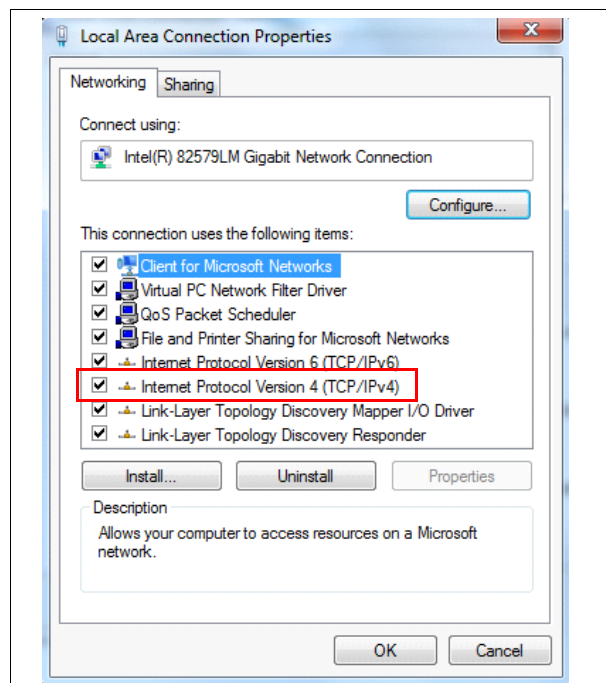

Figure 14. Select Internet Protocol Version 4 (TCP/IPv4)
5. Select Internet Protocol Version 4 (TCP/IPv4): (Figure 14).